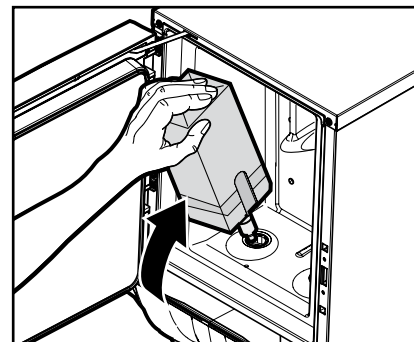

Fig. 20
7. Insert the product pack. (Fig. 20)